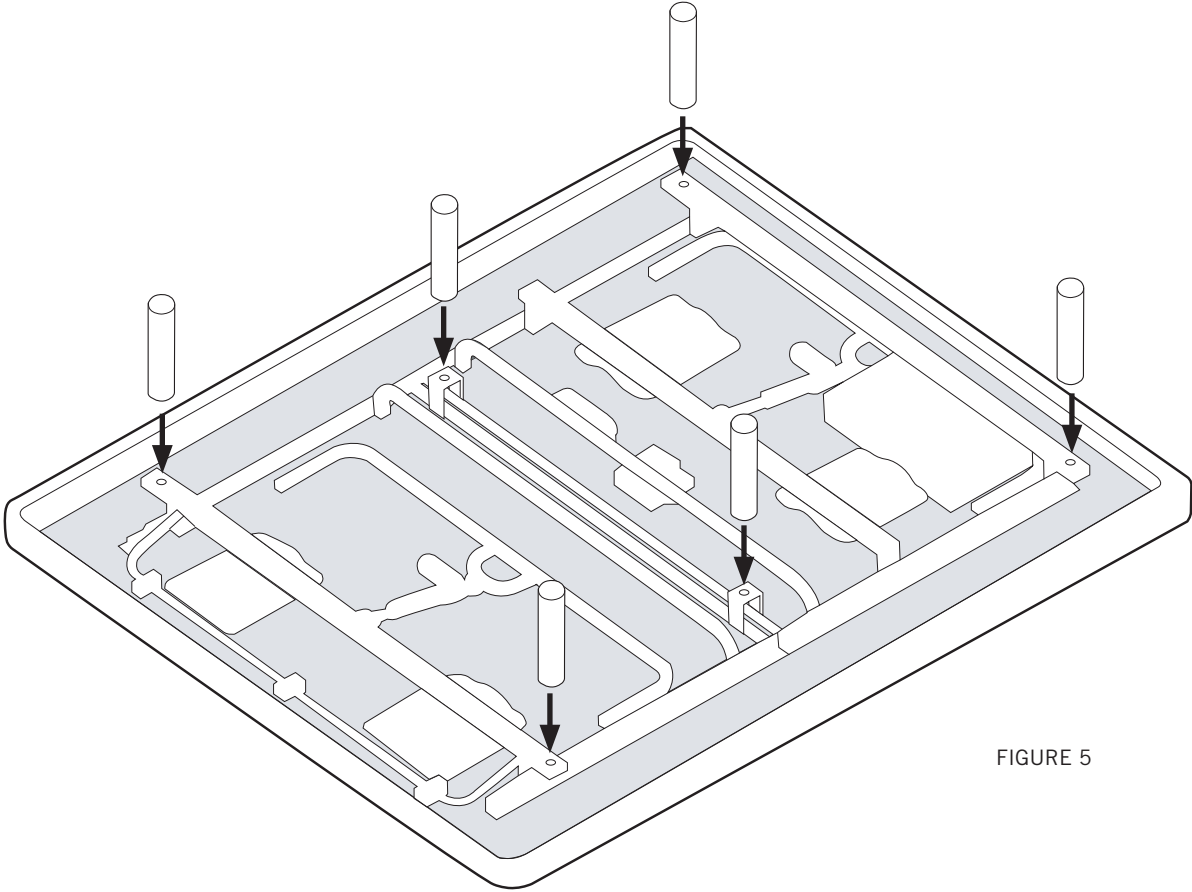

FIGURE 5
Screw (4) legs into the threaded inserts at the corners of the base frame (FIGURE 5).
Screw (2) legs into the threaded inserts of the center support brackets (FIGURE 5).